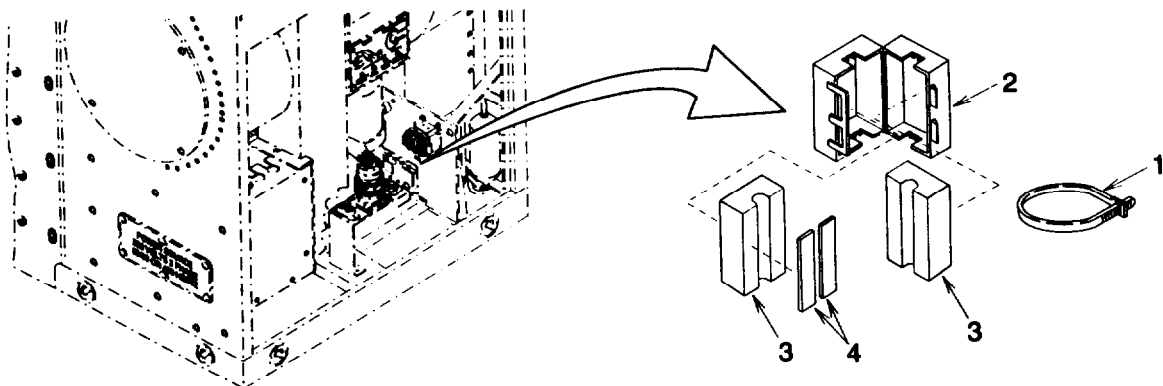

Figure 3-40. EMI Suppressors (FC1 through FC7)
- (a) Tag wire lead, then cut and remove tiedown strap (1) Figure 3-40.